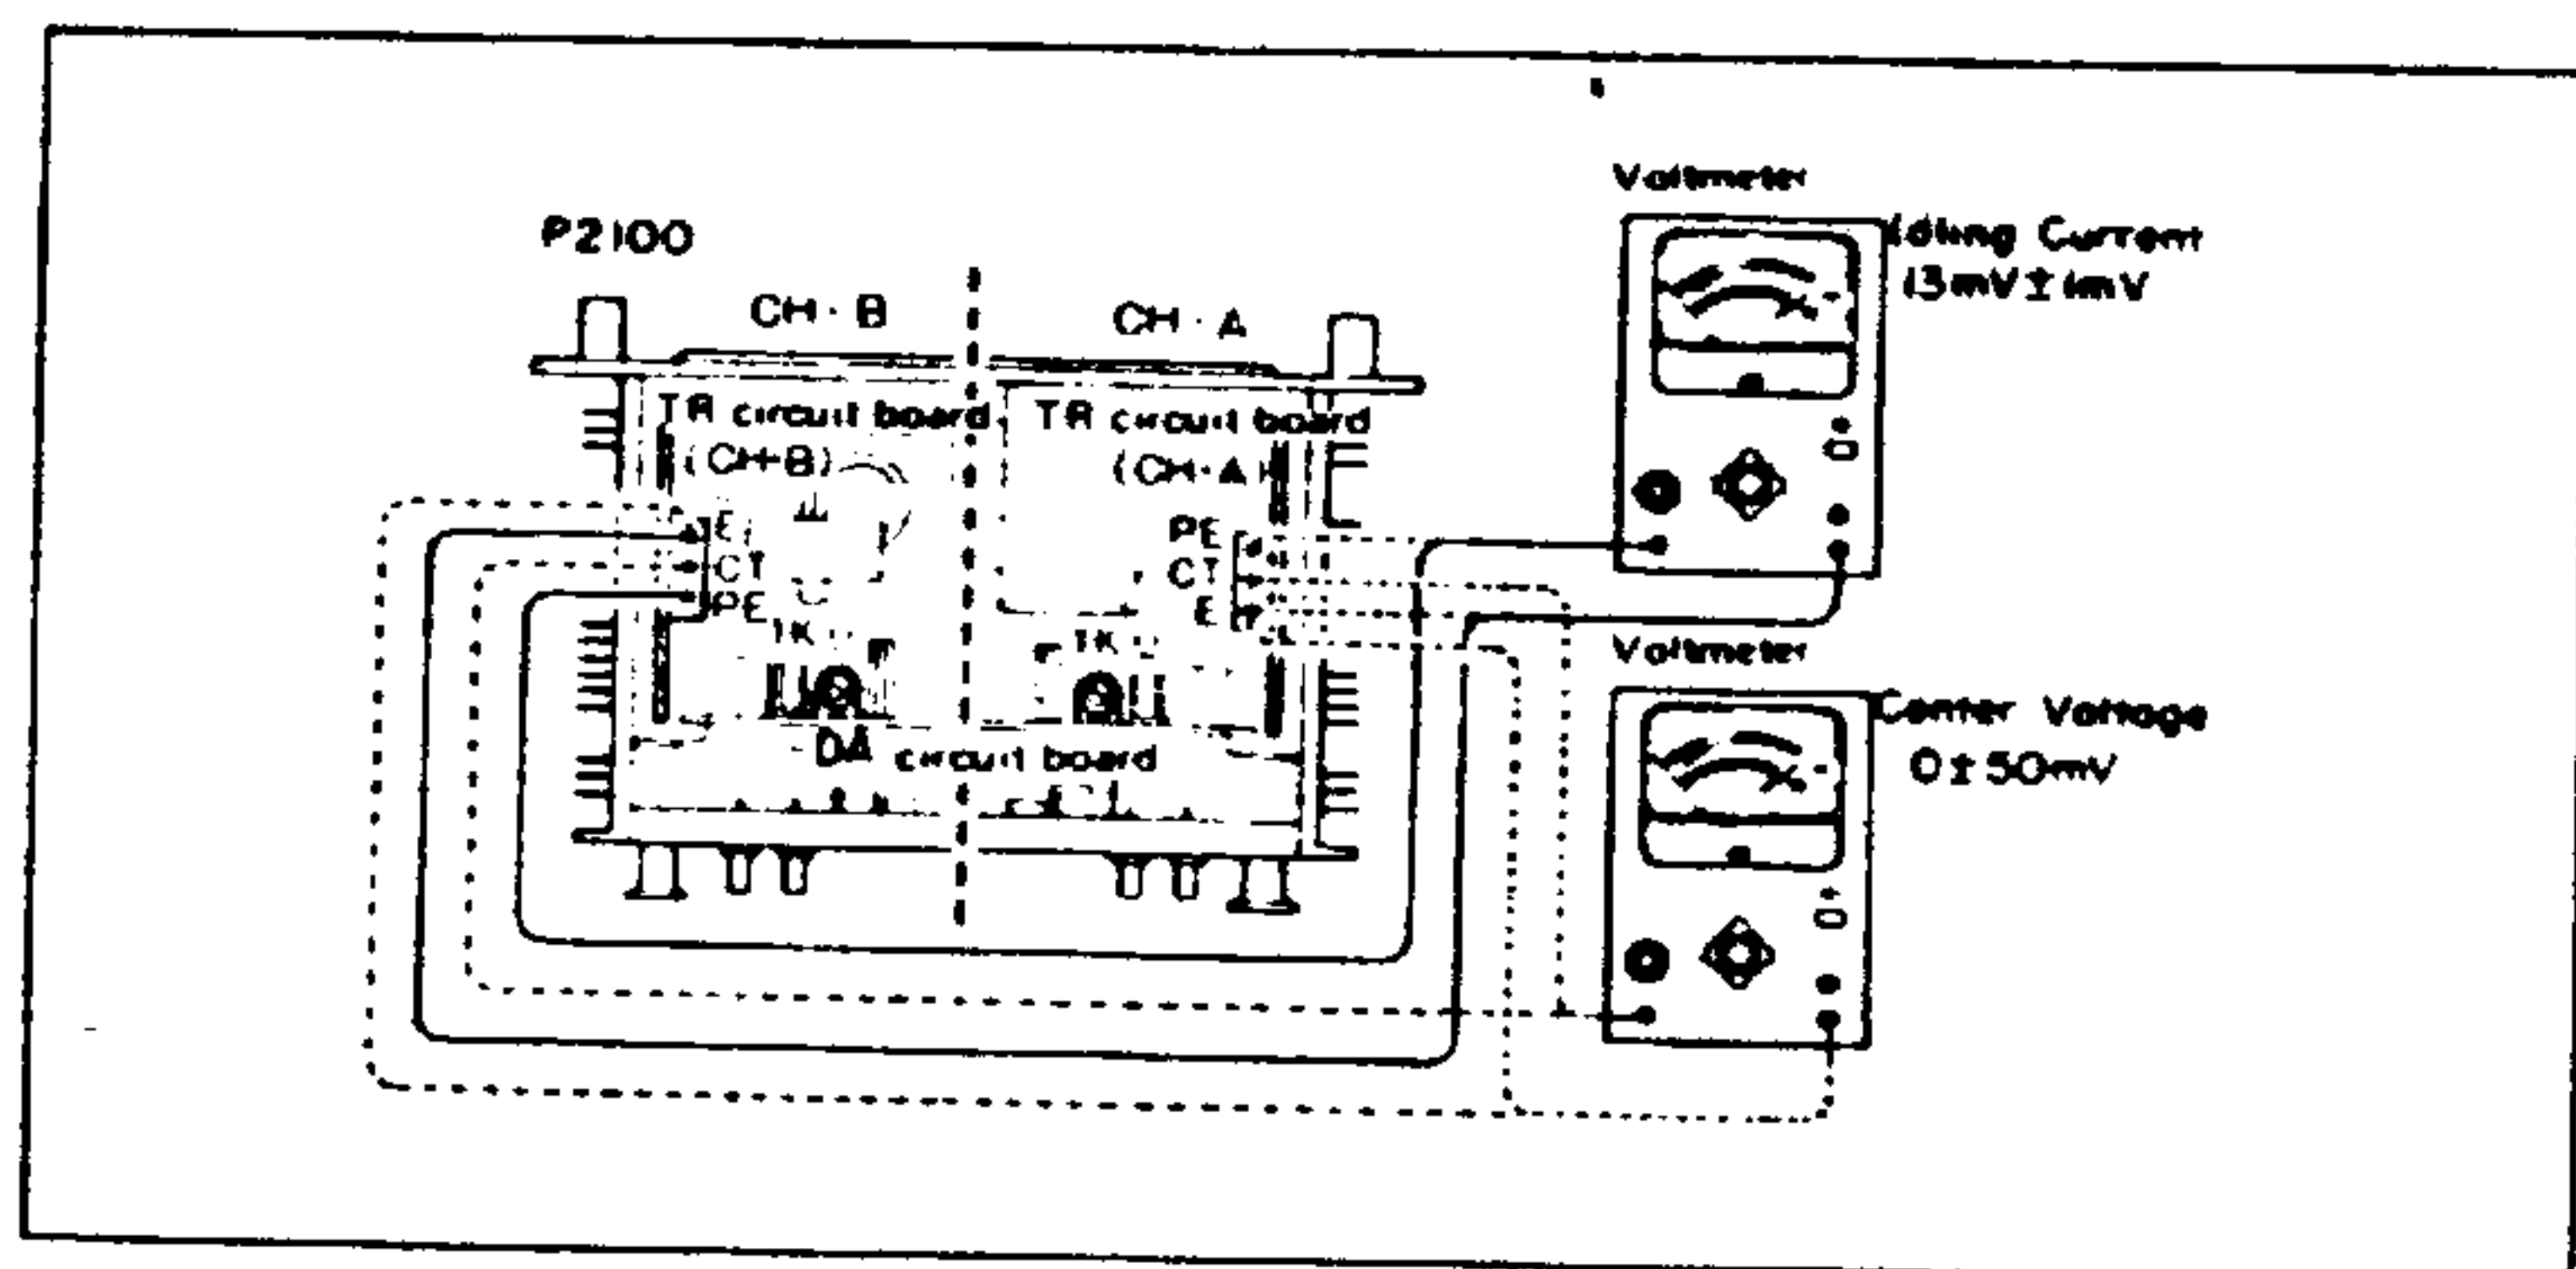

Fig. 1
- Switch the power on, turn the semi-fixed resistor ($1K\Omega$) on the DA circuit board so that the voltage across the TR circuit board test points PE and E is $13mV \pm 1mV$ within 30 seconds, and set. (Fig. 1)
Check that the voltage across TR circuit board CT and E terminals and across the speaker output terminals is within $0 \pm 50mV$. (Fig. 1)